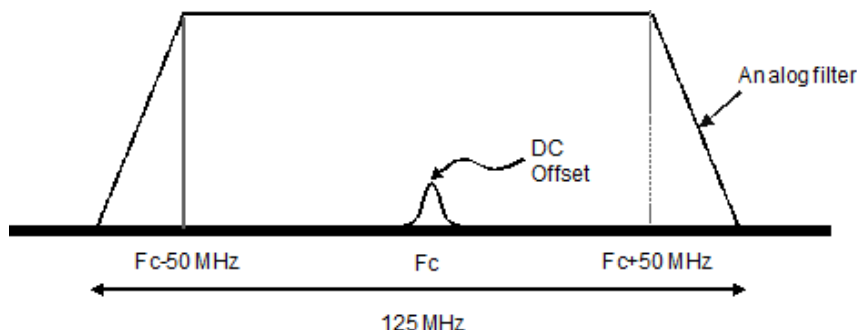

Figure 3: DC Offset with Amplitude Roll-Off at  $\pm 50$ MHz
The RTSA7500's WB ADC sampling rate is 125 MSa/s, intermediate frequency (IF) is 0 and the entire IF bandwidth is 125MHz. The analog filter results in an amplitude roll-off at approximately  $\pm 50$ MHz around the center frequency  $F_c$ , as illustrated in Figure 3.